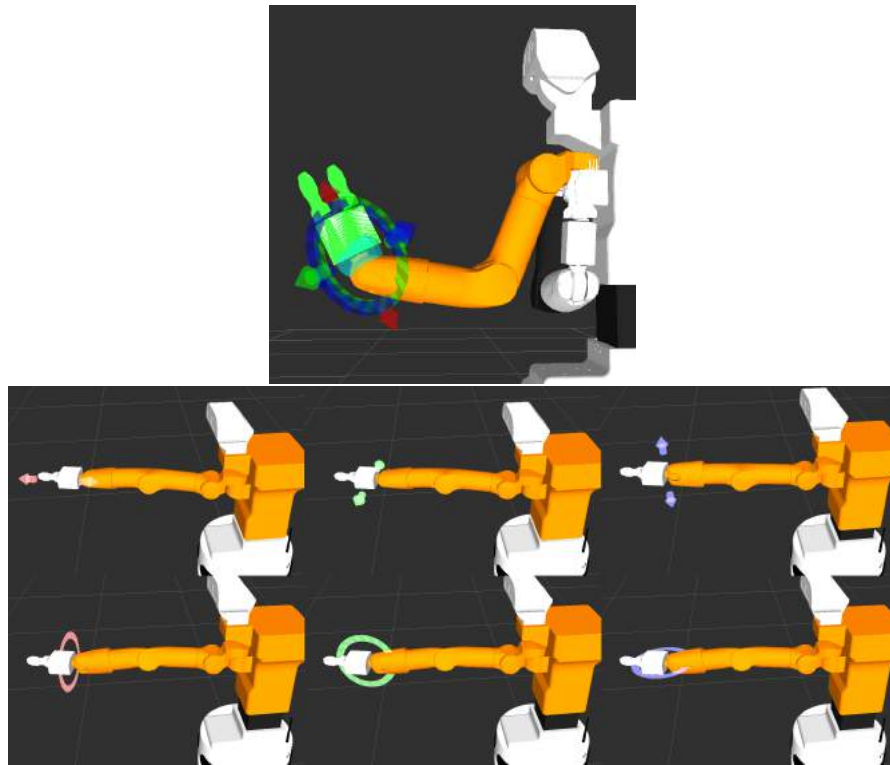

Figure 92: End effector tool (left) and the usage of each DOF (right)
6. The GUI also allows to define goal poses using the “flying end-effector” method. As shown in figure 92, the 6DOF pose of the end-effector can be defined by using the visual marker attached to it. The red, green and blue arrows define the translation of x,y and z coordinates respectively as well as the colored rings define the rotation around these axes following the same logic.